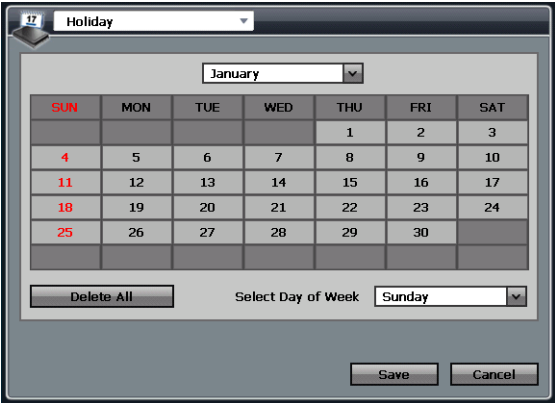

Figure 79
**Delete All** – By pressing this button, you can delete all holiday schedules. Once you press this button, a pop-up menu will appear (refer to figure 79)